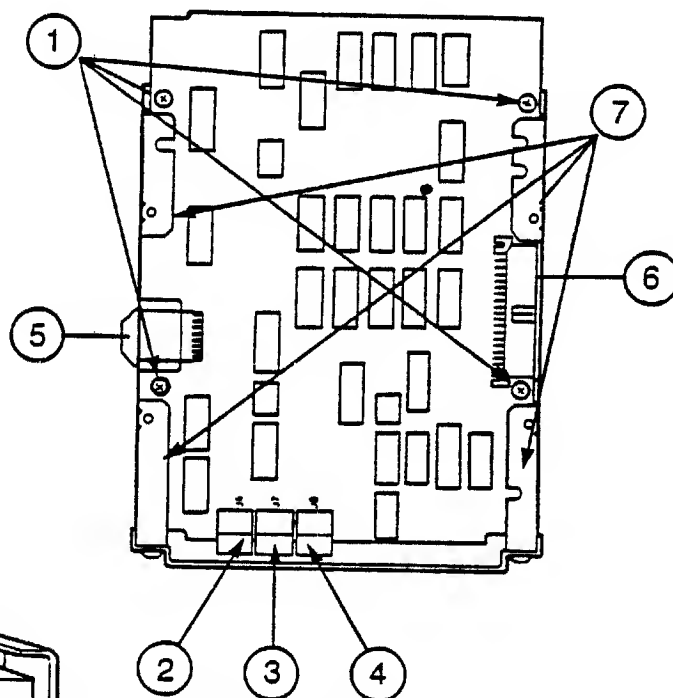

FIGURE 19
2. Place the ProFile case over the analog PCB (see Figure 19: the rear plates of the case should be on the far side of the HDA). Line up the screw holes in the case with the screw holes in the railings over the analog PCB (Figure 19, #1).